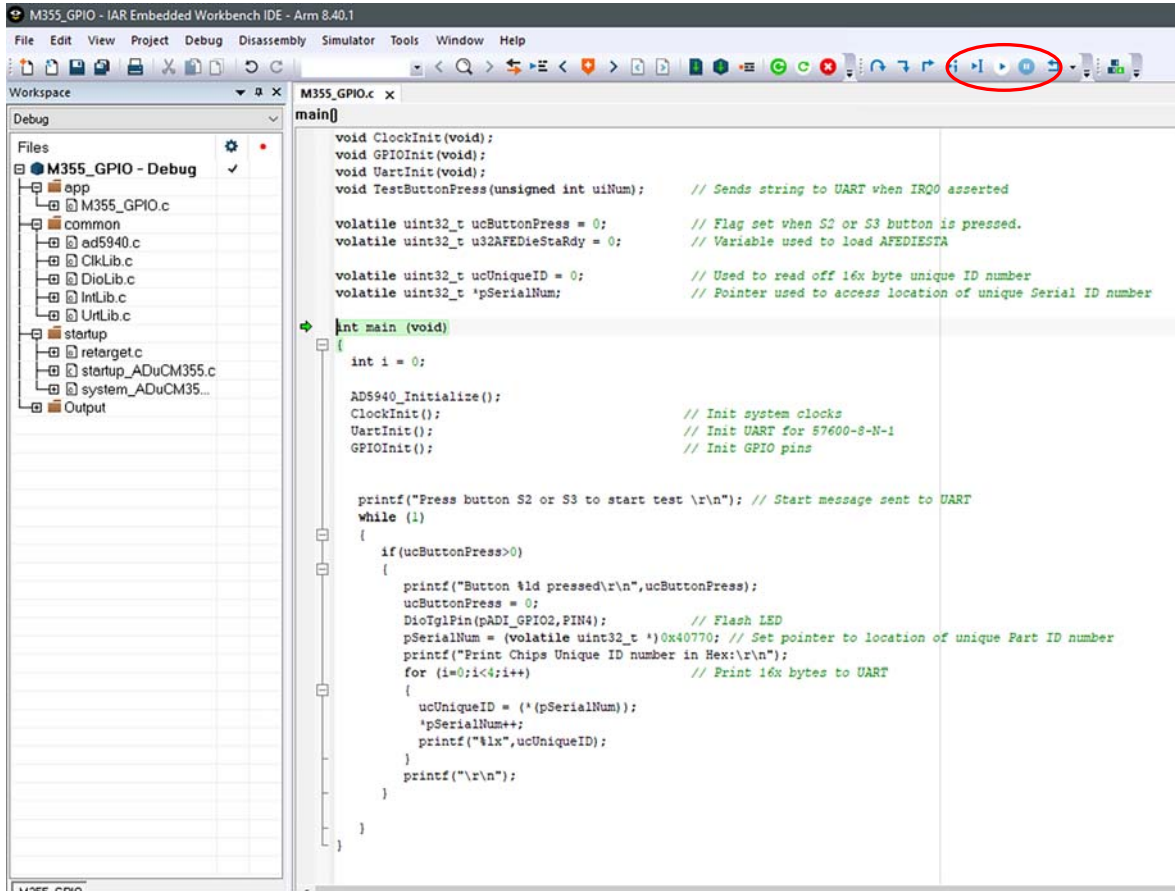

Figure 14. Debug Interface
5. Figure 14 shows the debug interface. Click the blue arrow (shown in the red circle) to begin code execution. The UART prompts the user to press either the S2 or S3 button. The DS2 LED toggles on and off with each button press.